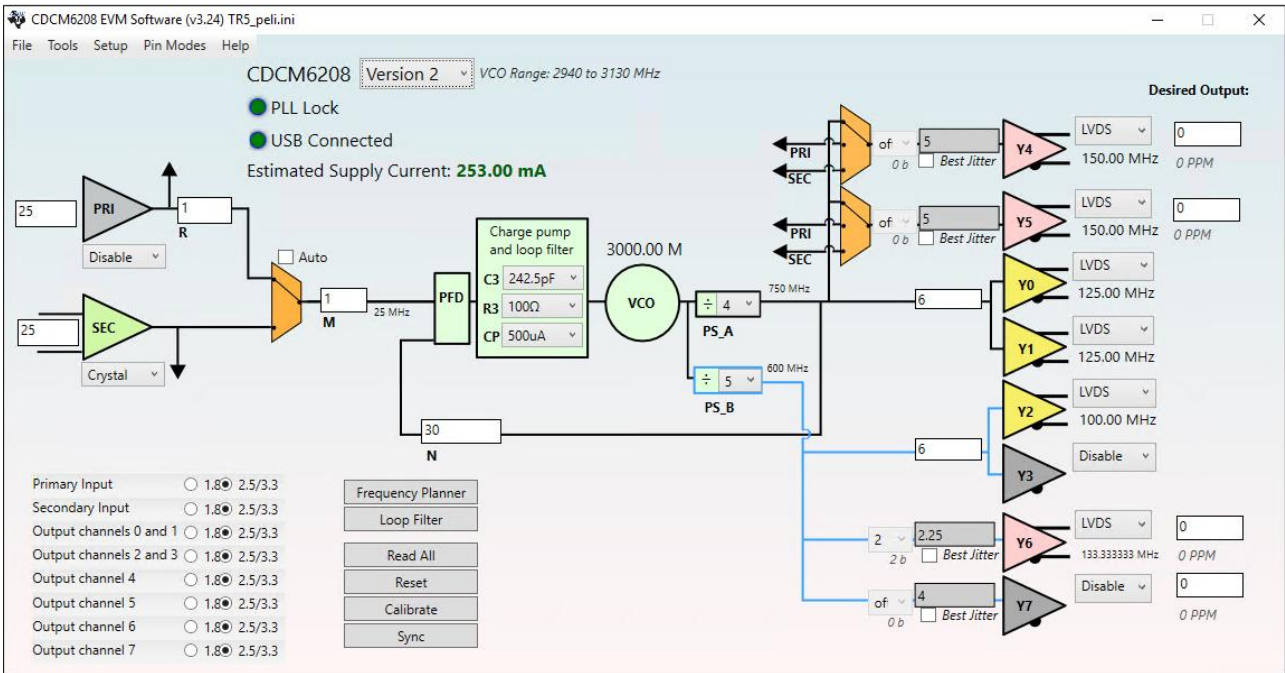

Figure 5-4 ClockBuilder Pro Wizard
1. Firstly, download ClockBuider Pro Software(See Figure 5-4), which is provided by TI. This tool can help users to set the CDCM6208's output frequency of each channel through the GUI interface, and it will automatically calculate the Register parameters required for each frequency. The tool download link: